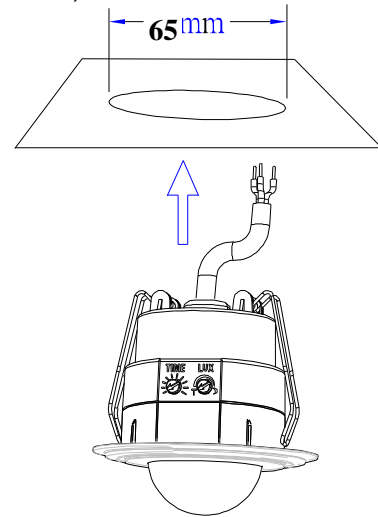

FIGURE 6
- (4) In order to install the sensor to the ceiling, drill a diameter of 65mm round hole on the ceiling. Wedge the main body into the round hole directly. (FIGURE 6)